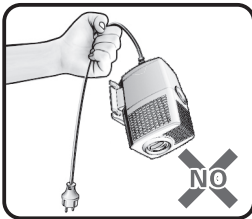

Figure 1
- Do not lift, lower or handle the pump by pulling on the electrical cord. Make sure the electrical cable does not become excessively bent or twisted and does not rub against a structure in a way that might damage it. (Figure 1)